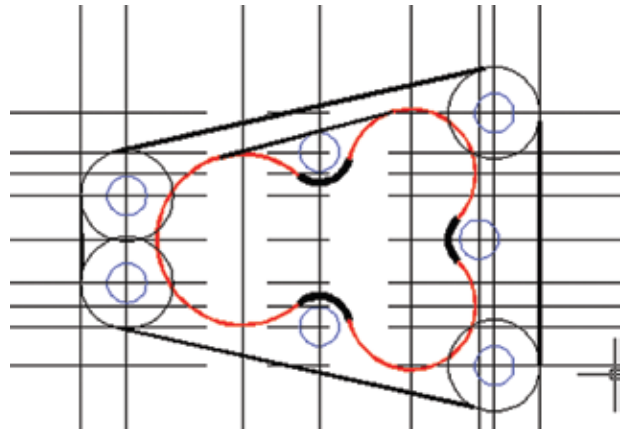

Figure 9.13
33. **Continue drawing** tangent lines around the outside circles until your drawing looks like Figure 9.13.